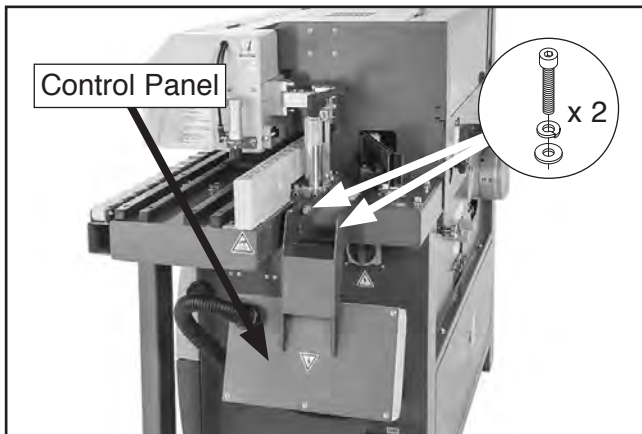

Figure 19. Location of cap screws and washers securing control panel upside-down for shipping.
1. Remove (2) pre-installed M8-1.25 x 16 cap screws, (2) 8mm lock washers, and (2) 8mm flat washers that secure control panel in shipping position (see **Figure 19**).